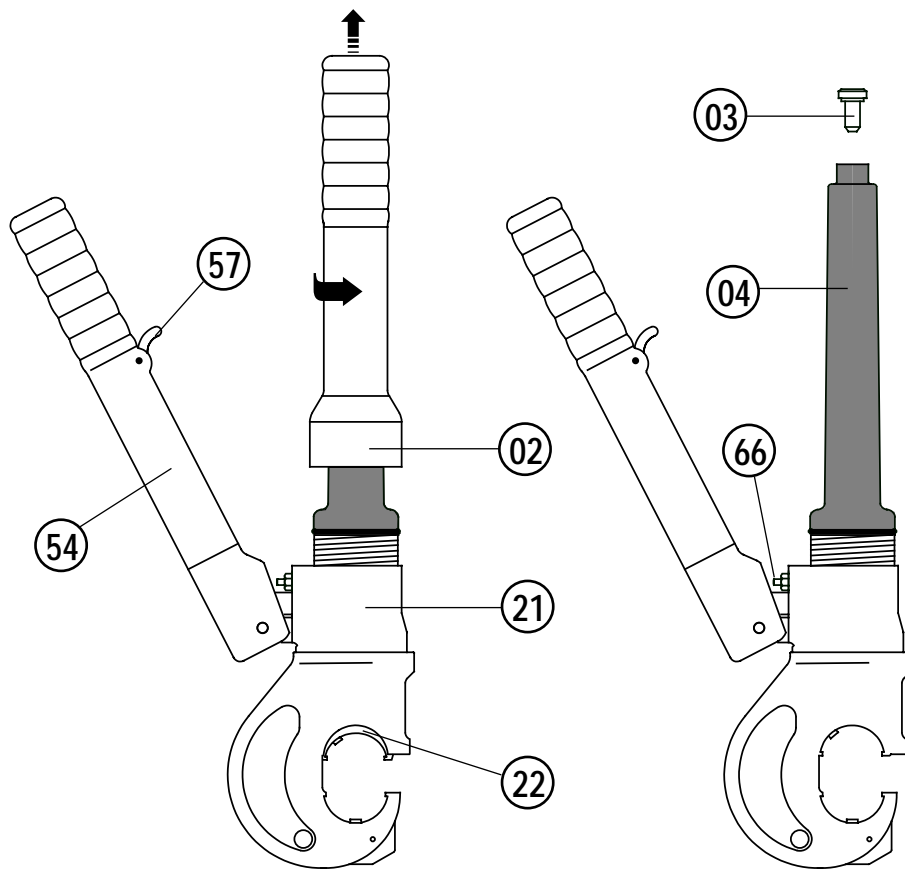

FIG. 4 TOOL POSITION FOR MAINTENANCE OPERATIONS
5. MAINTENANCE (Ref. to Fig. 4 and 6)
- a** – Hold tool upright in a vice with handles open (Fig. 4).
- b** – Unscrew the main handle (02) to expose oil reservoir (04).
- c** – Remove reservoir cap (03).
- d** – Operate three or four times the moveable handle (54), to advance the ram (22).
- e** – Depress pressure release pin (66) until ram is fully retracted.
- h** – Remove all air from reservoir and fit cap (03).
- i** – Assemble main handle (02).